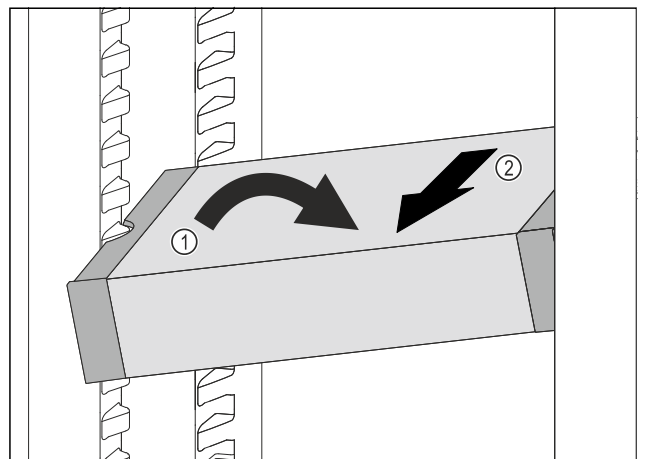

Fig. 151
- Set VarioSafe in refrigerator compartment at an angle. Fig. 151 (1)
- Take VarioSafe out to the front. Fig. 151 (2)